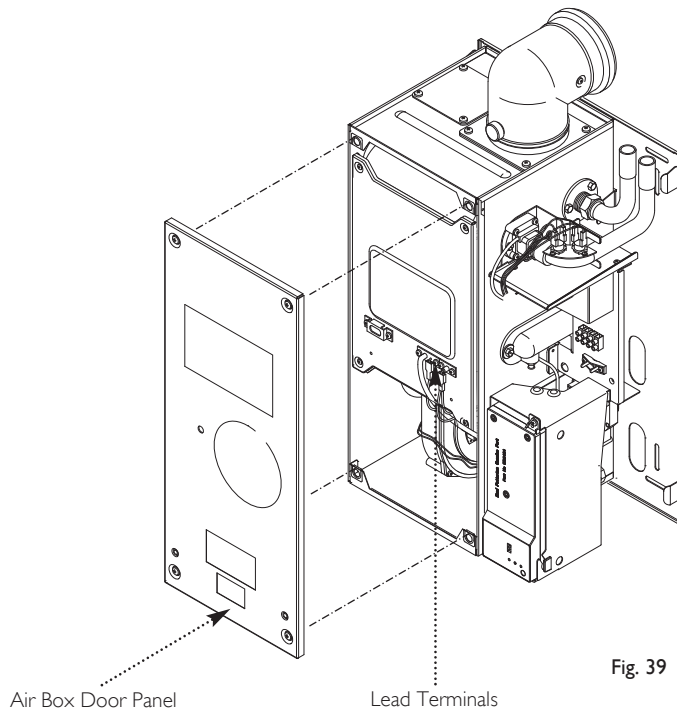

Fig. 39
7. Release the four $\frac{1}{4}$ turn screws securing the air box door panel and remove the door (Fig. 39).